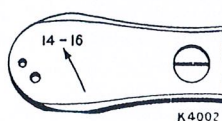

Fig. 9.
Loosen screw (E) and remove needle plate with hinge pin (D). When replacing the plate see that the slot of the pin (D) is in the position shown in Fig. 9 and with its flat facing screw (E). The screw must then be tightened.